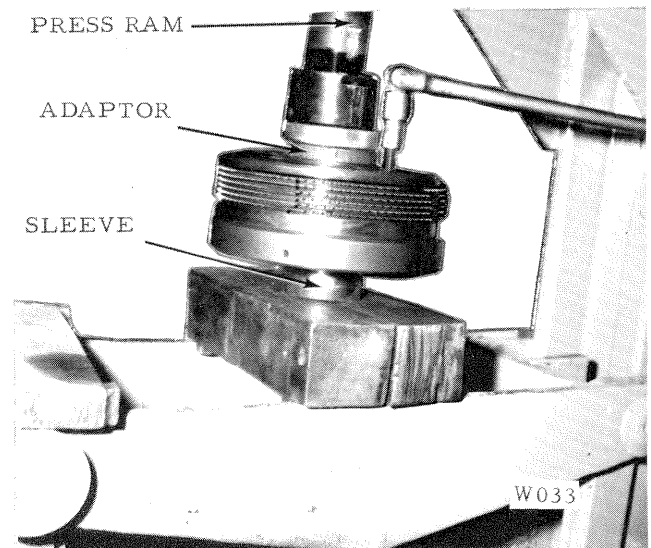

Figure 33
2. Use an impact driver to remove the socket head assembly capscrews. Unusually tight capscrews will have to have the capscrew head drilled off it. Use a Visegrip to remove remaining capscrew. The assembly should be clamped in a vise, or in a press as shown in Fig. 33.